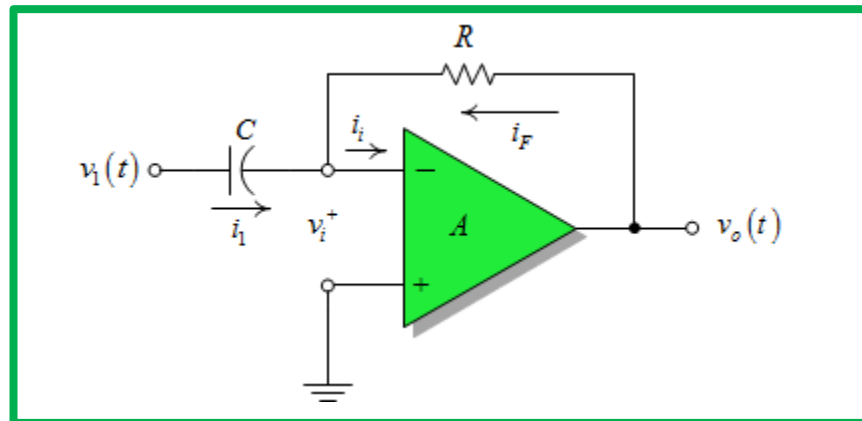

Fig. 13: Differentiator circuit.
- A differentiator circuit is shown in Fig. 13. Much as it is not as useful as the integrator ckt we just looked at, the differentiator does provide a useful operation. The resulting relation for the circuit is